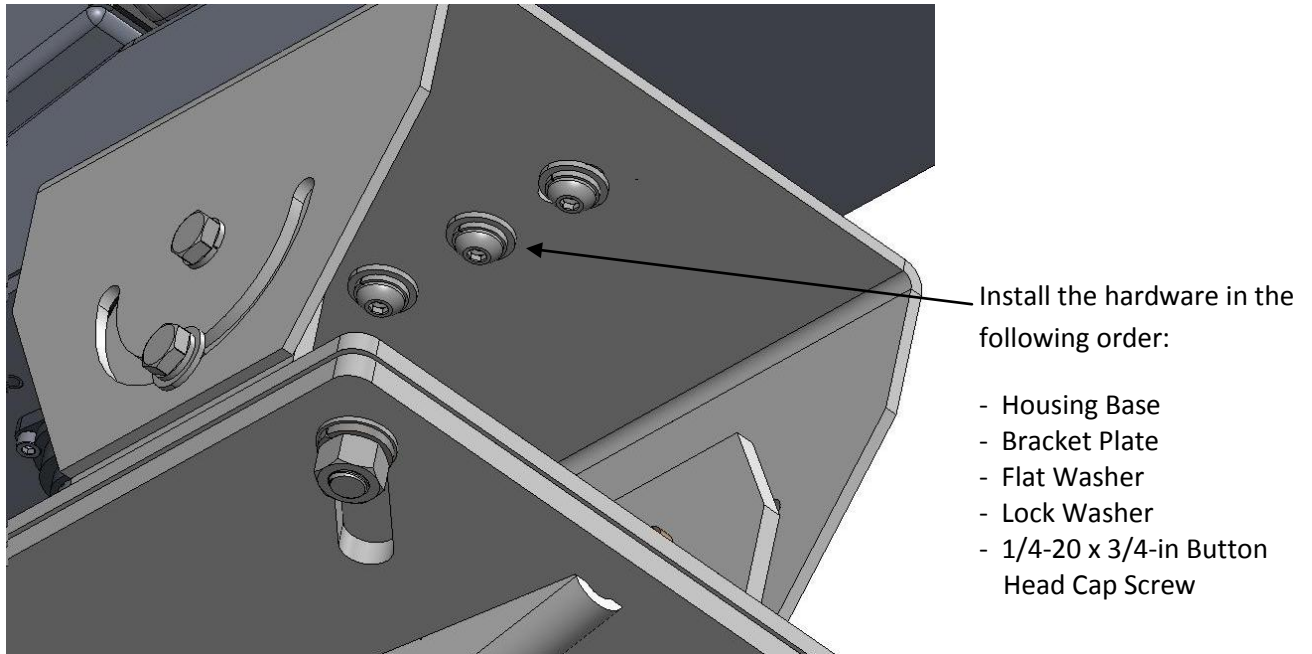

Figure 4 - Attach Camera Housing
- 3.1. Attach the camera housing to the bracket as shown in Figure 4.